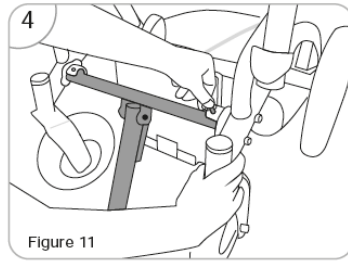

Figure 11
4. Attach climber bracket onto climber holder, by inserting pins into hole position. (See Fig. 11)